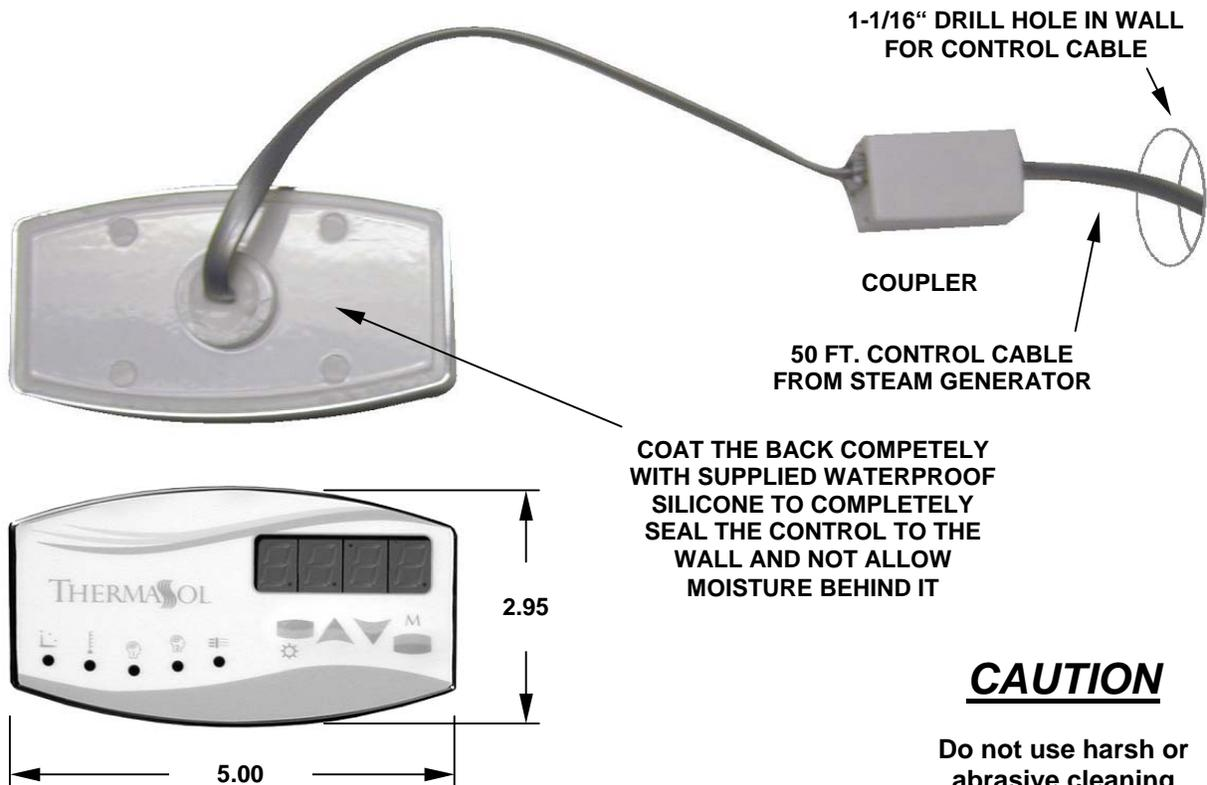

Figure 9
2. The **Elite** control (shown in Figure 9) MUST be located **INSIDE** the enclosure.